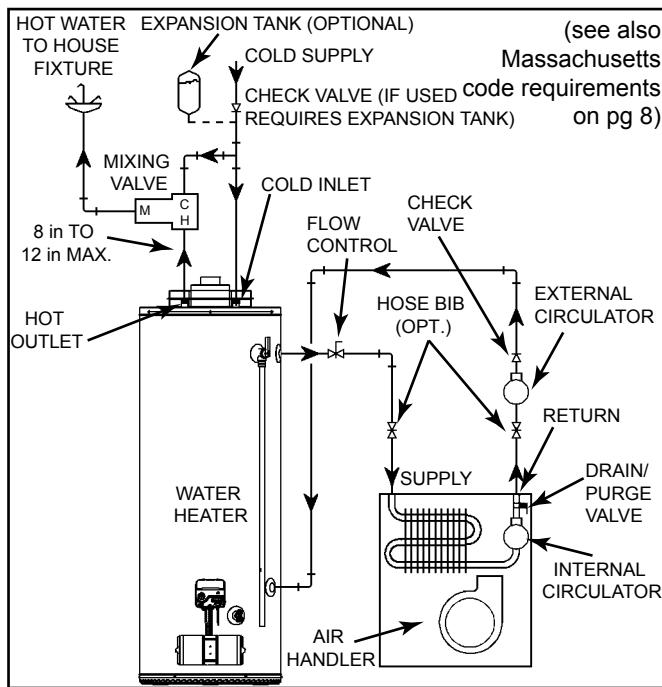

Figure 11
8. "Combo" Heating Systems require higher water temperatures than other applications. When the system is used to supply water for Combo Heating applications, a means, such as mixing valve, must be installed to temper the water in order to reduce scald hazard potential (see Figure 11 & Figure 12).
- A. A fan coil/air handler (Figure 11).